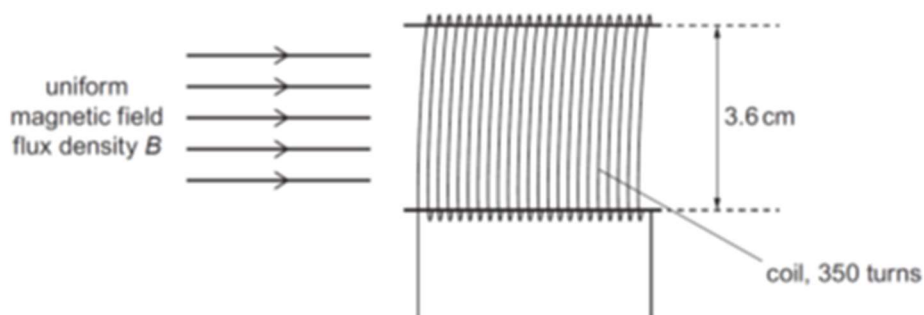

Fig. 4.1
- (a) A coil of wire is situated in a uniform magnetic field of flux density B . The coil has diameter 3.6 cm and consists of 350 turns of wire, as illustrated in Fig. 4.1.